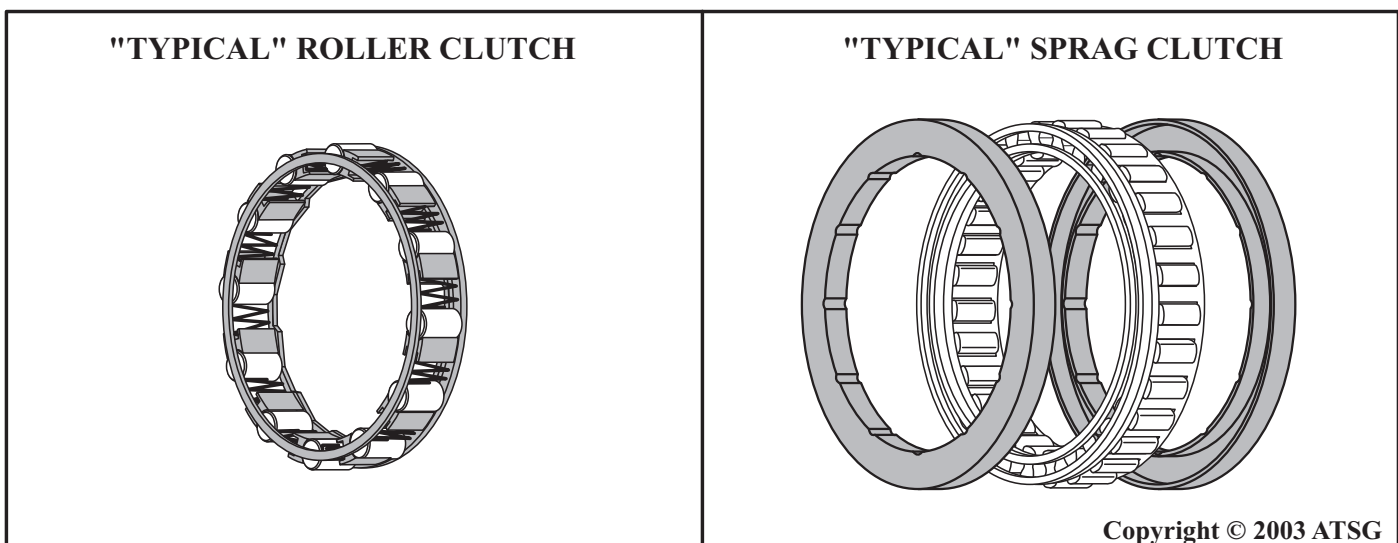

Figure 1
- (1) ROLLER CLUTCH ASSEMBLY - Changed to a Sprag type freewheel with 26 elements, as shown in Figure 1, for greatly increased durability.